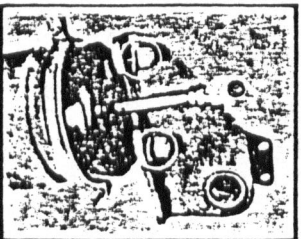

FIG. 5
- Install tandem on bracket making sure washers (if furnished) are on outside of bracket and not against the N.P. housing (Fig. 5). Connect yoke to slack adjuster. Torque nuts, using a torque wrench, 115-150 lbs. ft.